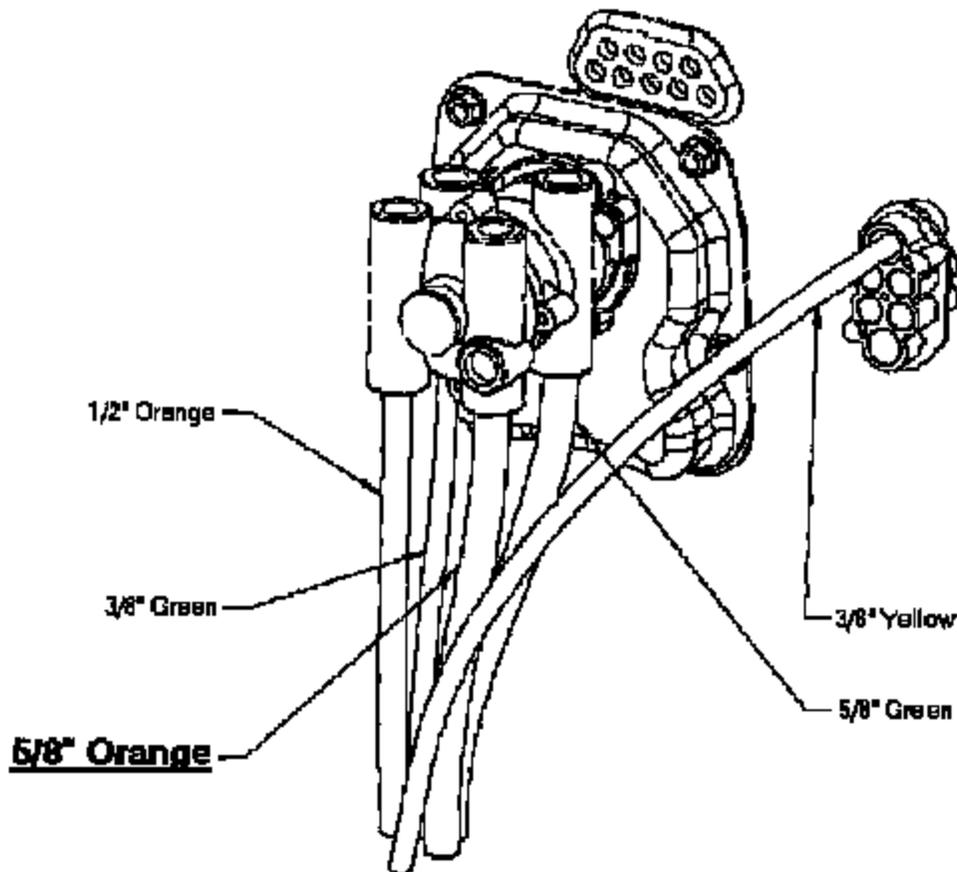
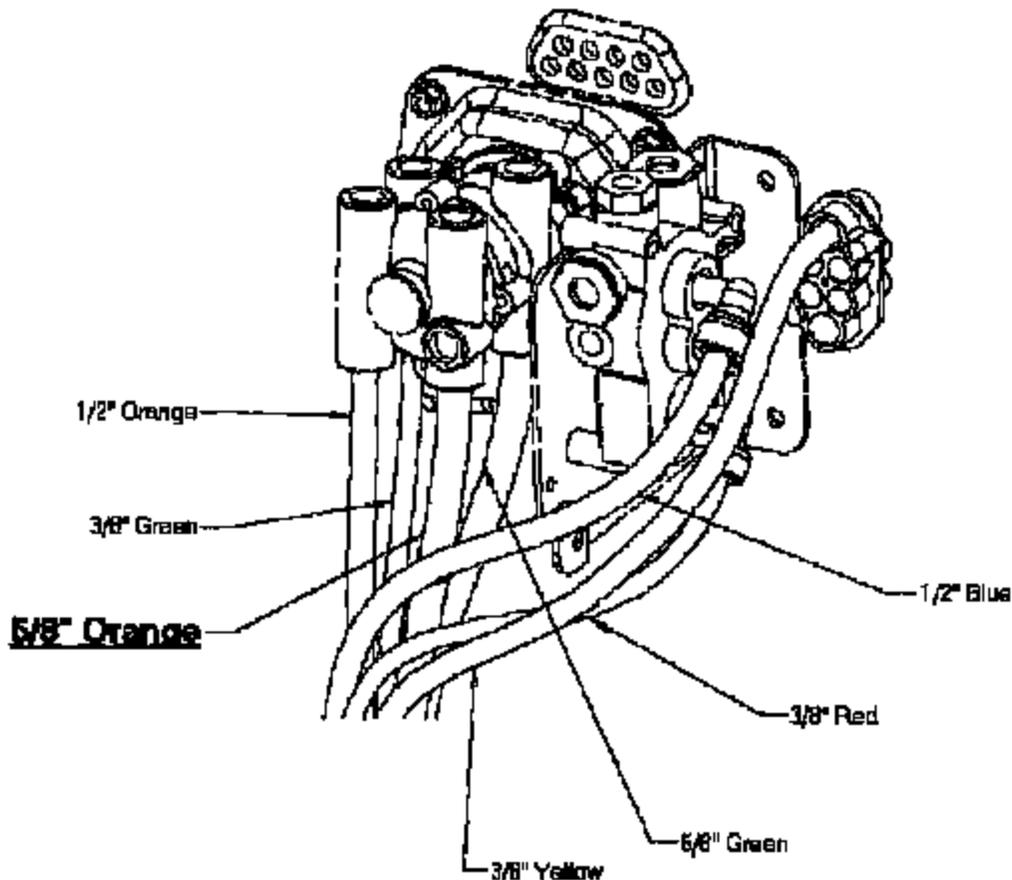

Figure 2 (Truck)
Figure 3 (Tractor)
5. Remove 5/8" orange tubing from brake treadle (foot) valve. See Figure 2 for Trucks and Figure 3 for Tractors.